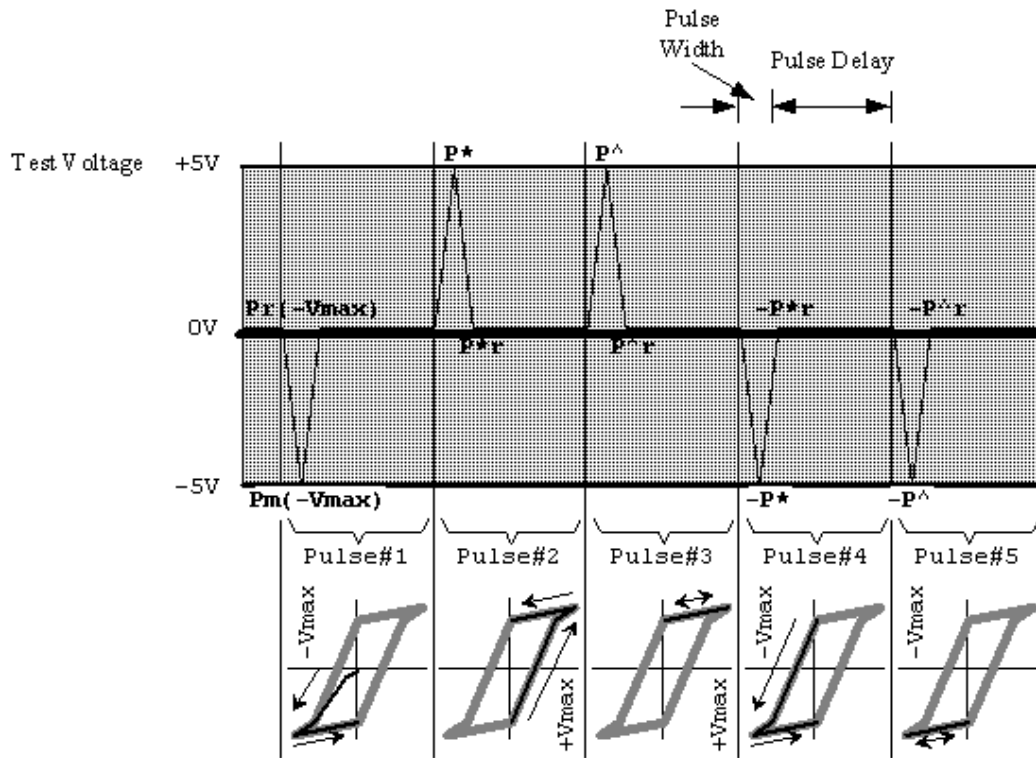

Figure C.1.1 - PUND Pulse Voltage Profile.
The PUND (Positive Up Negative Down) measurement is a standard ferroelectric measurement well known to users of the Radiant Technologies, Inc. Charge program. The test consists of five pulses as shown in **Figure C.1.1**. The first pulse presets the sample to a known Polarization state, but makes no measurement. Each of the next four pulses is used to measure two PUND parameters, one at the maximum applied voltage and one at zero volts after the pulse. These pulses alternately switch the sample (P^* measurements), then repeat without switching (P^\wedge measurements). The two final pulses are of opposite signs to fully characterize the sample in both polarization states. The profile can be easily constructed out of three configuration parameters...
1. **Test Voltage** - This defines the absolute value of the maximum voltage of each pulse. The non-zero polarization measurement is made at this voltage. The sign of this value determines the polarity of the preset pulse and the pulse sequence. A negative test voltage will invert the profile of **Figure C.1.1**.